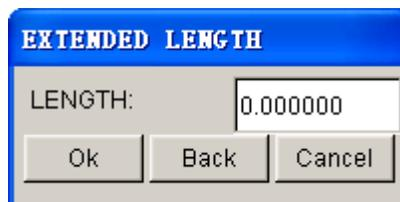

Figure 5.1.24 Extended Length dialog box
- Enter a real number as the extended length in the Length of Extend dialog box as illustrated in Figure 5.1.24.